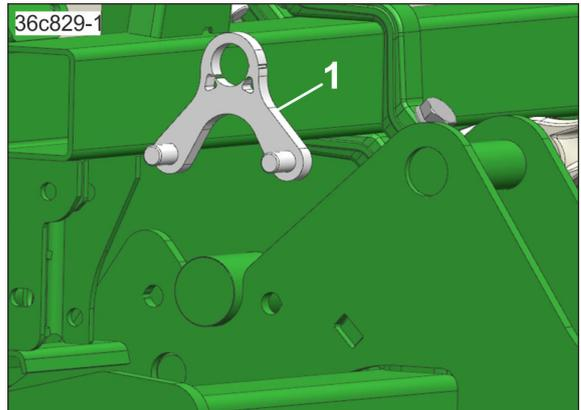

Fig. 133
6. Hang the supply lines in the hose cabinet (Fig. 133).